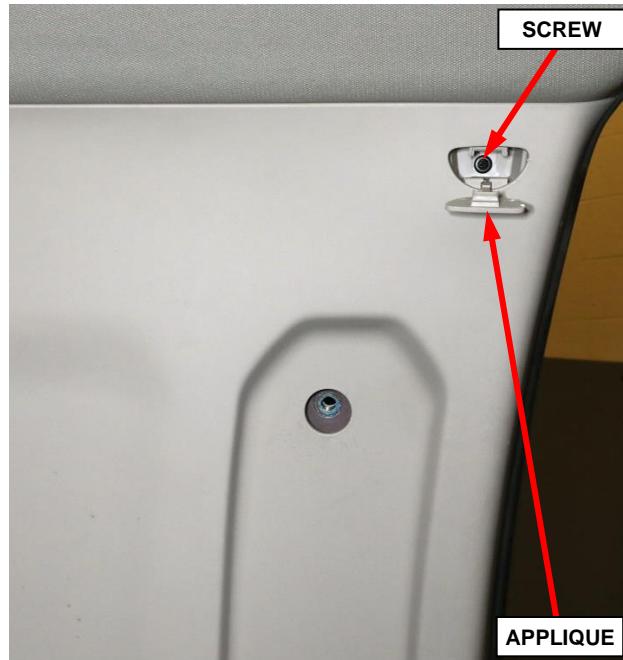

Figure 23 – C-Pillar Upper Trim Panel
14. Using a trim stick or equivalent, release the C-pillar airbag applique then remove the screw that secures the upper trim panel (Figure 23).
46. Install and tighten the screw that secures the C-pillar upper trim panel. Then install the airbag applique (Figure 23).